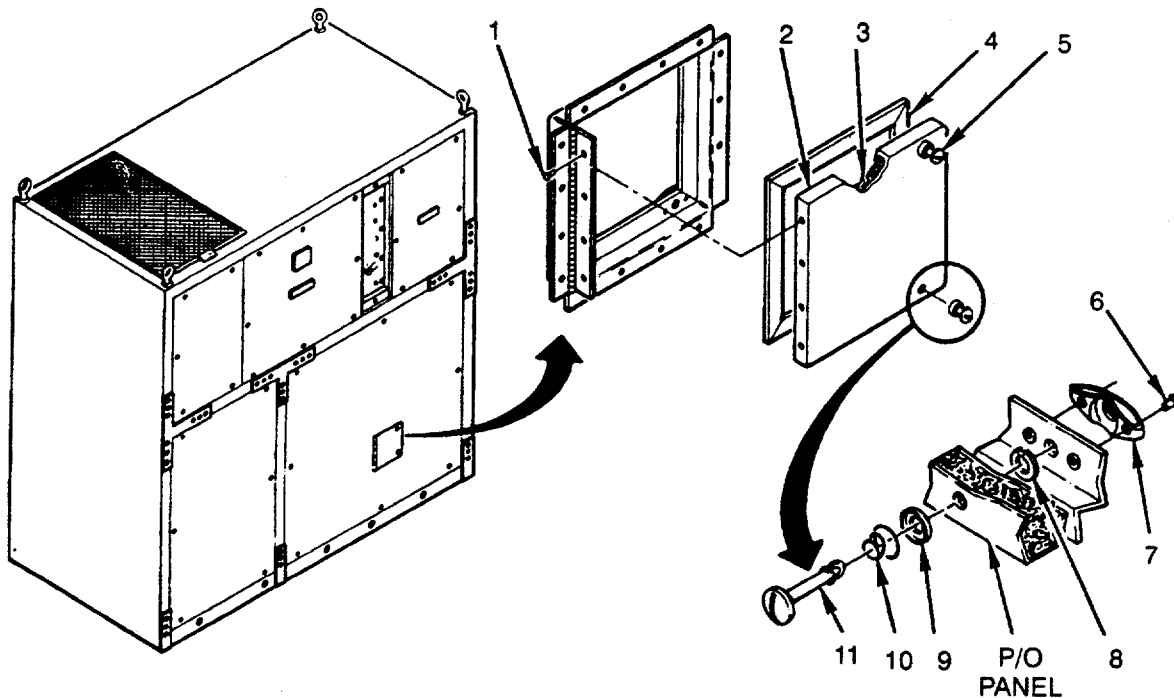

Figure 4-33. Front Service Valve Panel
1. Check that panel (2) is not bent, cracked, or punctured (see Figure 4-33).
3. Check that gasket (4) is not torn, loose, or missing; replace gasket if damaged or missing (para 4-28)
4. Check that captive fasteners (5) or receptacles (7) are not damaged or missing.
5. Check front service valve panel (2) for missing rivets (1) or damaged hinge.